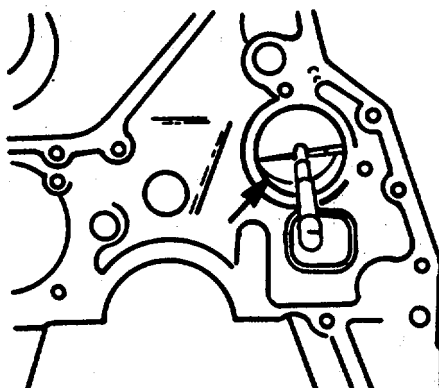

FIGURE 4-94. Measure Installed Cam Bushings.
- j. Use an inside dial bore gauge to measure the installed cam bushing. (FIGURE 4-94)